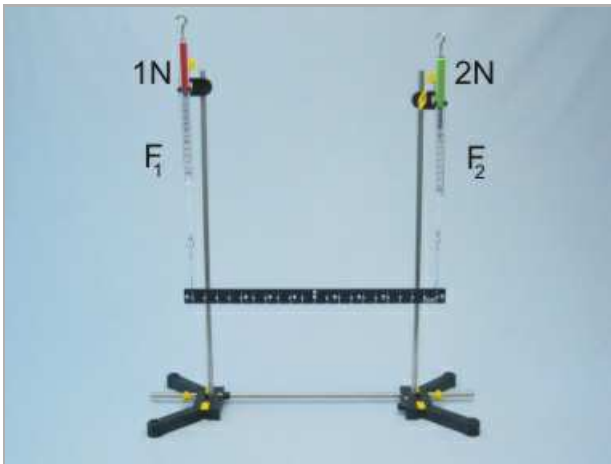

Fig. 10
- Read both spring balances when the loops on both sides are on the 10 marks. Record the forces F_1 and F_2 in Table 1 on the Results page. In Fig. 10 it is shown how to name the forces.